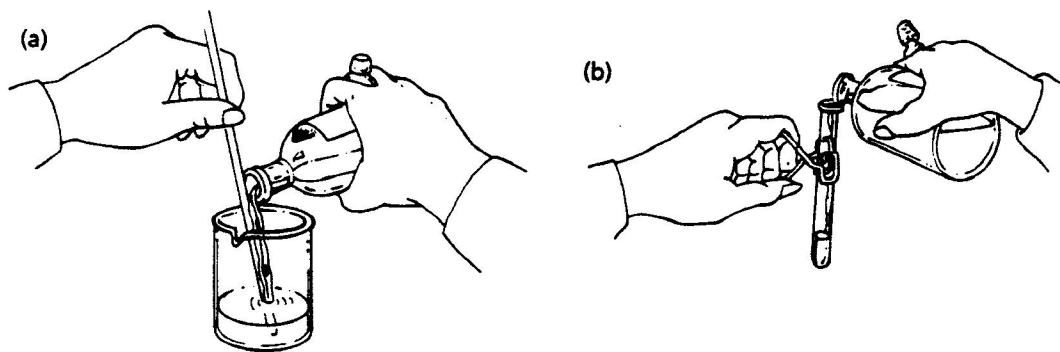

Figure 9 Proper methods of pouring liquid reagents
*Do not set the stopper down.* While still grasping the stopper, pour from the side of the reagent bottle away from the label, as illustrated in Figure 9.
When pouring a liquid into a large-mouth container, pour the liquid down a glass stirring rod [Figure 9(a)] to avoid spattering. If pouring into a test tube, stand the tube in a test-tube rack, or use a test-tube holder [Figure 9(b)].